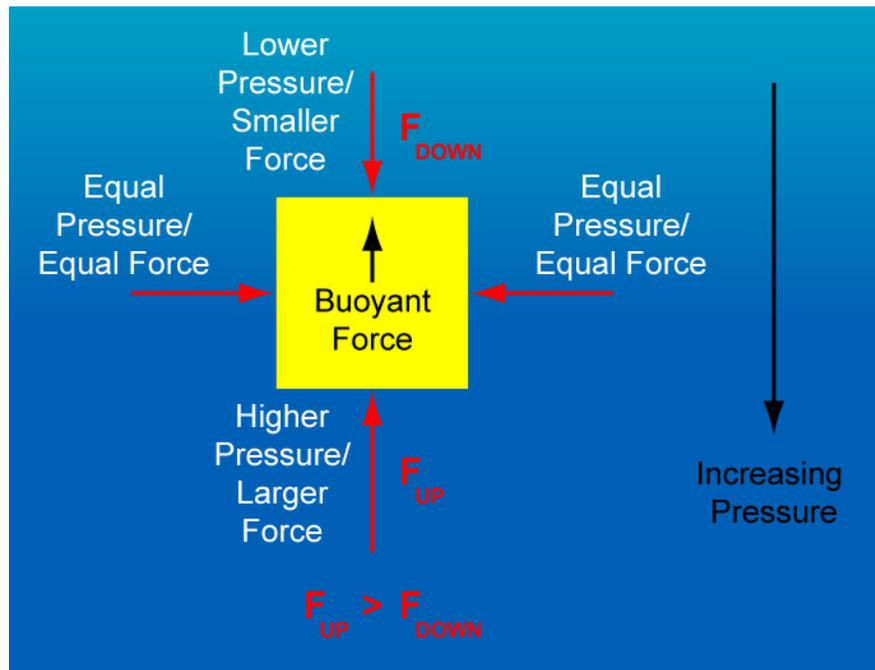

Figure 1: The Net Force of the Fluid Acting on an Object Is the Buoyant Force
- **Buoyant force:** When an object displaces water, the water surrounding it has the tendency to try to fill in the space the object now occupies. The water pushes against the object, exerting pressure and force on it. Since pressure increases with depth, the pressure-induced force on the bottom of an object is greater than the pressure-induced force acting on the top of the object. The buoyant force is the difference between the larger force produced from the higher pressure pushing up under the object and the smaller force produced from the lower pressure pushing down over the object. See Figure 1.